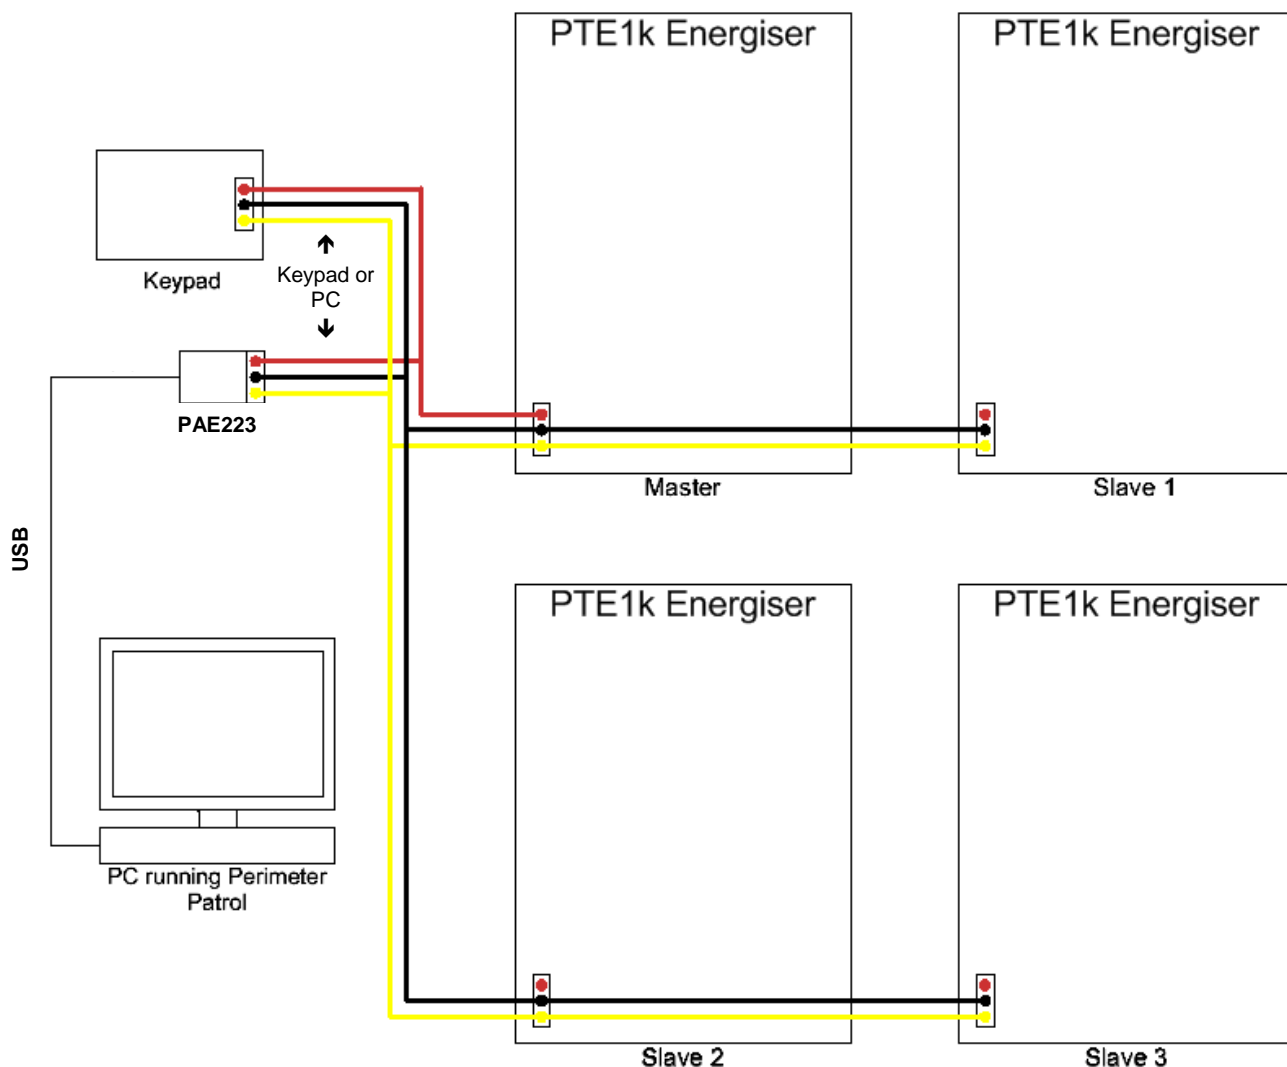

Figure 20 - Group Mode Linking
7. Connect the group using the keypad bus as per Figure 20 - Group Mode Linking.